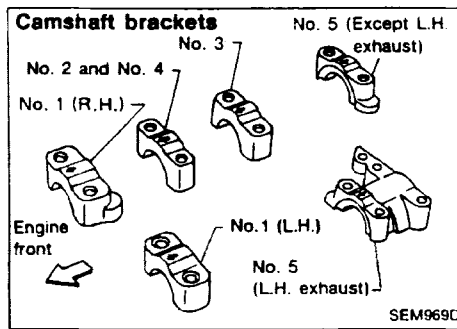

Figure 5
- To ensure that all cam caps are reinstalled correctly, mark the cam caps for both intake and exhaust cams. For example, mark "RE-1" through "RE-5" on the RH exhaust cam caps; "LI-1" through "LI-5" for the LH Intake cam caps (Figure 5).